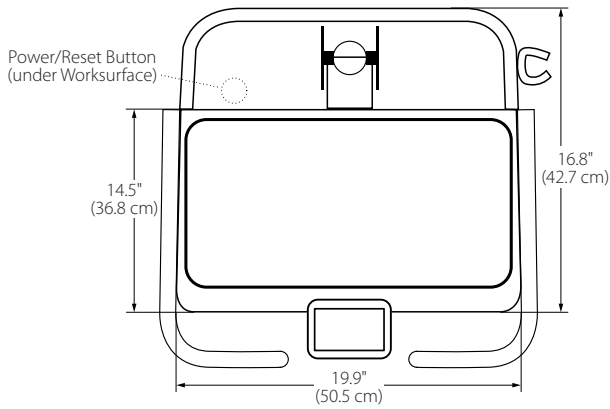

Figure 3
- Power/Reset button located under Worksurface (**Figure 3**)
- Worksurface: 19.9" (50.5 cm) W x 14.5" (36.8 cm) L (**Figure 3**)